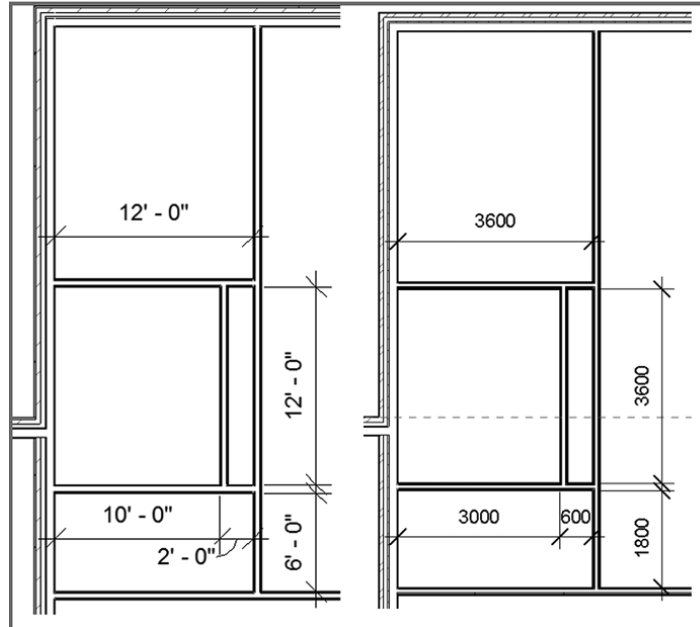

FIGURE 2.37: The lavatories at the west side of the building
The next step is to add the lavatories. These will show up at the west end (left side) of the building. Refer to Figure 2.37 for the dimensions, and follow these steps:
2. Look at your options, and create the lavatories shown in Figure 2.37. All of the dimensions are taken from the inside finish face.